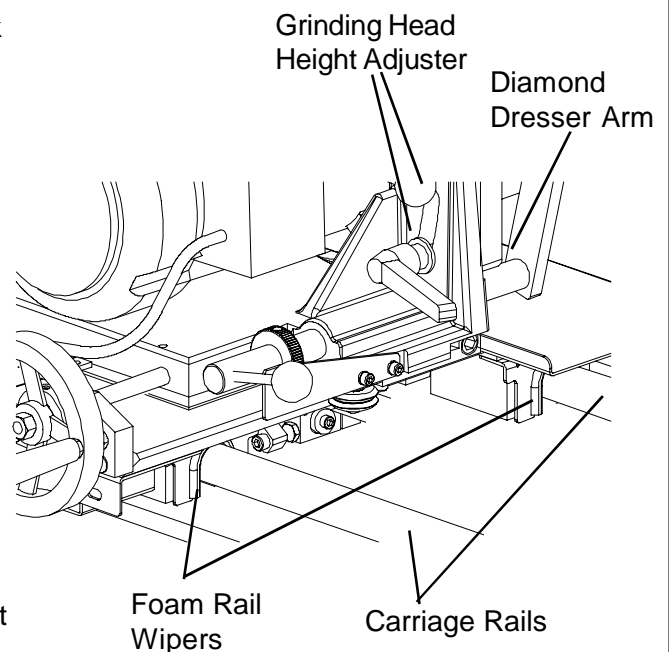

FIG. 15
4. Replace the four foam rail wipers (FIG. 15) every 6 months of operation. Note: Wipers are removed if optional bellows are installed.